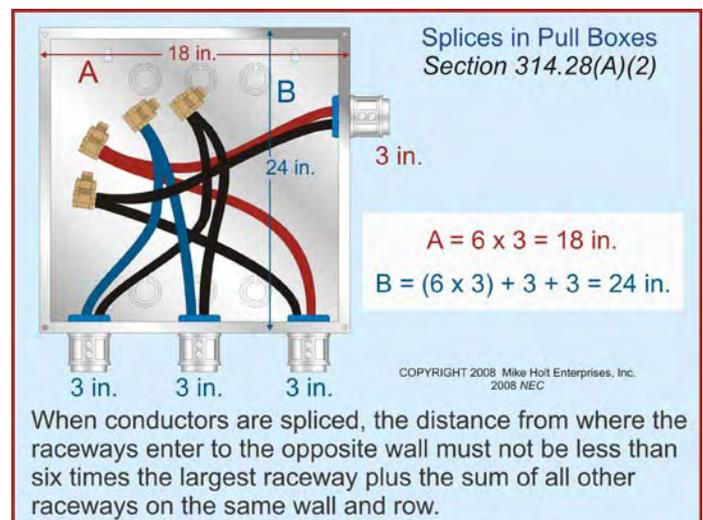

Figure 314-23
- Splices. When conductors are spliced, the distance from where the raceways enter to the opposite wall must not be less than six times the trade size of the largest raceway, plus the sum of the trade sizes of the remaining raceways on the same wall and row. **Figure 314-23**